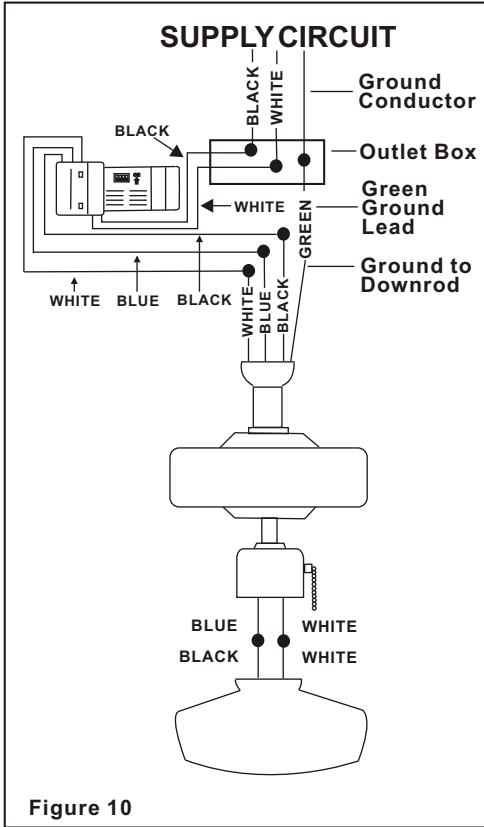

Figure 10
Step 2. (Figure 10) Motor to Receiver Electrical Connections: Connect the black wire from the fan to black wire marked "TO MOTOR L". Connect the white wire from the fan to the white wire marked "TO MOTOR N" from the receiver. Connect the blue wire from the fan to the blue wire marked "For Light" from the receiver. Secure the wire connections with the plastic wire nuts provided.
Step 3. (Figure 10) Receiver to House Supply Wires Electrical Connections: Connect the black (hot) wire from the ceiling to the black wire marked "AC in L" from the receiver. Connect the white (neutral) wire from the ceiling to the white wire marked "AC in N" from the Receiver. Secure the wire connections with the plastic wire nuts provided.
Step 4. (Figure 10) If your outlet box has a ground wire (green or bare copper) connect it to the fan ground wires; otherwise connect the hanging bracket ground wire to the mounting bracket. Secure the wire connection with a plastic nut provided. After connecting the wires spread them apart so that the green and white wires are on one side of the outlet box and black and blue wires are on the other side. Carefully tuck the wire connections up into the outlet box.